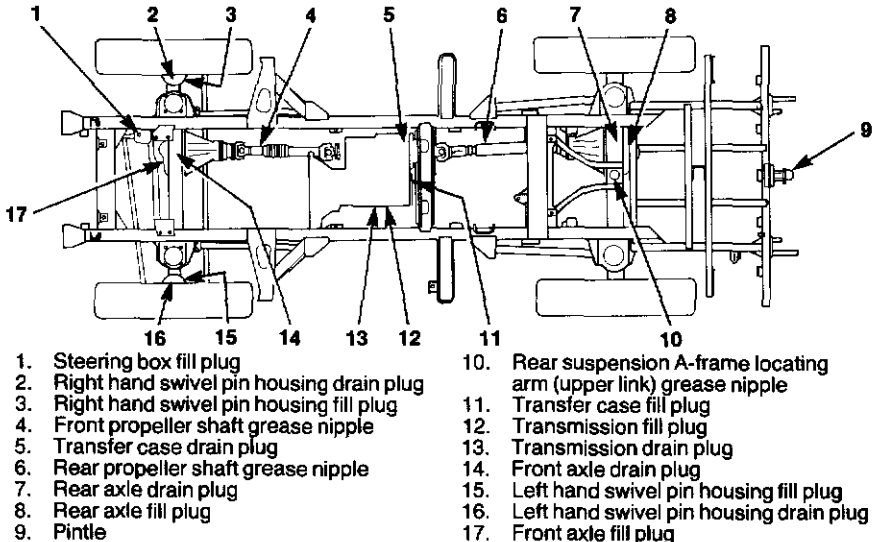

Figure 3-3 Lubrication and oil drain/refill points
320. Fig. 3-3 illustrates the location of various lubrication and oil drainage/refill points around the vehicle.
332. The propeller shafts are each fitted with a grease nipple (see Fig. 3-3 items 4 and 6) and lubrication is required each service.
333. The rear suspension A-frame locating arm (upper link) is fitted with a grease nipple (see Fig. 3-3 item 10) and lubrication is required each service.